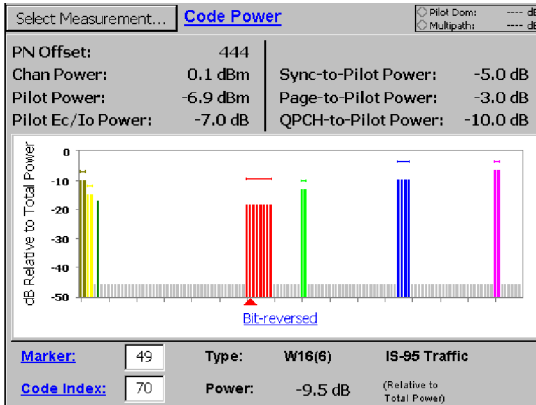

Figure 3-50: cdma2000 Code Power display
5. Tap **Code Power**. See Figure 3-50.